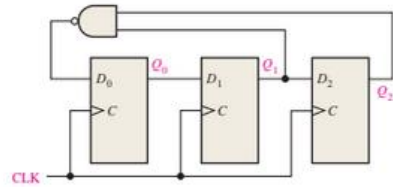

FIGURE 9-73
18. Determine the sequence of the counter in Figure 9-73.